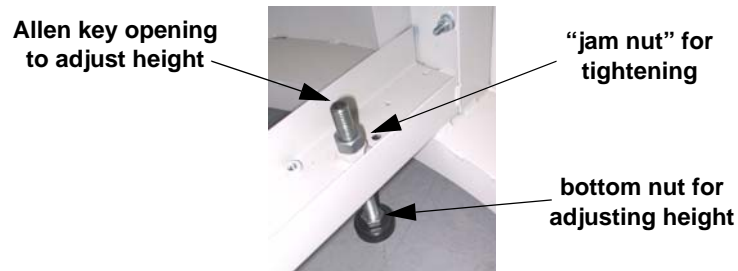

Figure 3.52 Jam nut
- i. Tighten all of the feet firmly to their final positions using a wrench on the jam nuts (identified in Figure 3.52 on the previous page).